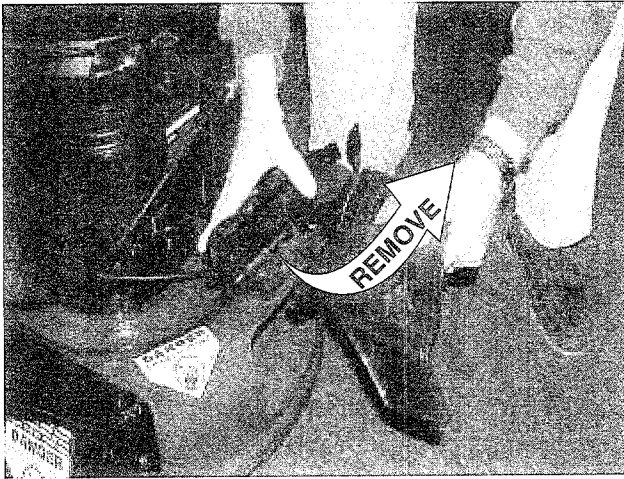

Figure 13
2. If the unit was set up for side discharge, lift the hinged mulching plug on the side of the deck and remove the side discharge chute. Lower the hinged mulch plug. See Figure 13.